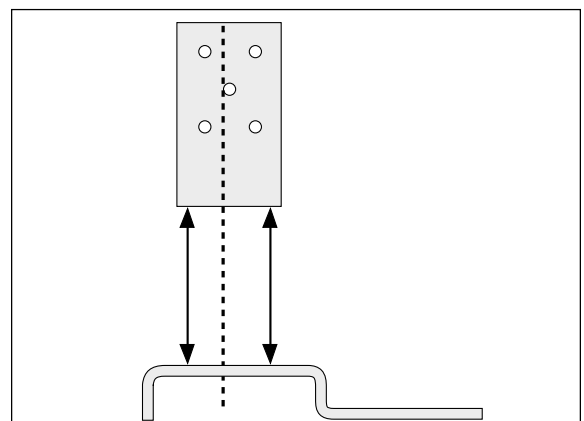
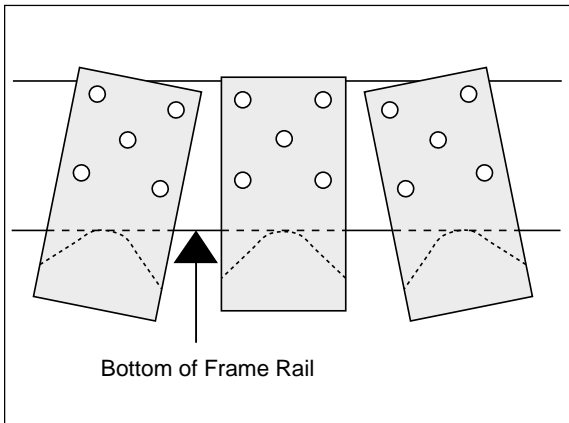
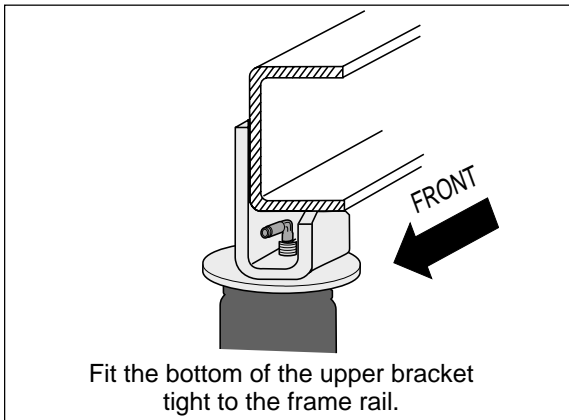

Figure 9
Figure 10
Figure 11
1. To install the upper bracket, the upper bracket must be in line with the lower bracket and on the same angle as the leaf spring. The upper bracket must be parallel and perpendicular to the lower bracket (Figure 9). The upper bracket is designed so that it can be "tilted" for the proper angle (Figure 10). The bottom of the upper bracket must fit tight to the bottom of the frame rail (Figure 11).
4. Should it become necessary to raise the vehicle by the frame, make sure the system is at minimum pressure (10 p.s.i.) to reduce the tension on suspension/brake components. Check to see that the air spring rolls back down over the bottom piston after the vehicle is lowered (Figure 10). If sleeve fails to roll back down over the piston, add air pressure until sleeve "pops" back over piston (do not exceed 100 p.s.i.).